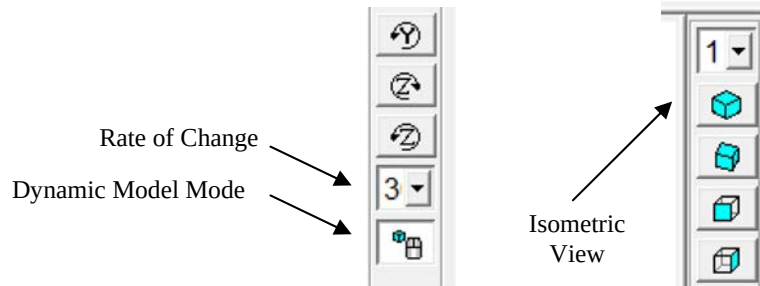

Figure 3-2-4 Rate of Change and Dynamic Model Mode Buttons (left) and Isometric View Button (right) in the Graphic Window's Pan Zoom Rotate Menu.
- Click the “Dynamic Model Mode” button at the bottom of the Pan Zoom Rotate menu located to the right of the Graphics Window (Figure 3-2-4, left)
- Click the “Isometric View” button in the Pan Zoom Rotate menu to return to the isometric view (Figure 3-2-4, right)
Depending on your graphics and mouse settings, you may need to adjust the Rate of Change for Model Manipulation in order to effectively use Dynamic Mode. You can do this using the Rate slider in the Pan Zoom Rotate dialog box from the PlotCtrls menu or using the Rate of Change drop down box in the Pan Zoom Rotate menu in the Graphics Window (Figure 3-2-4, left).